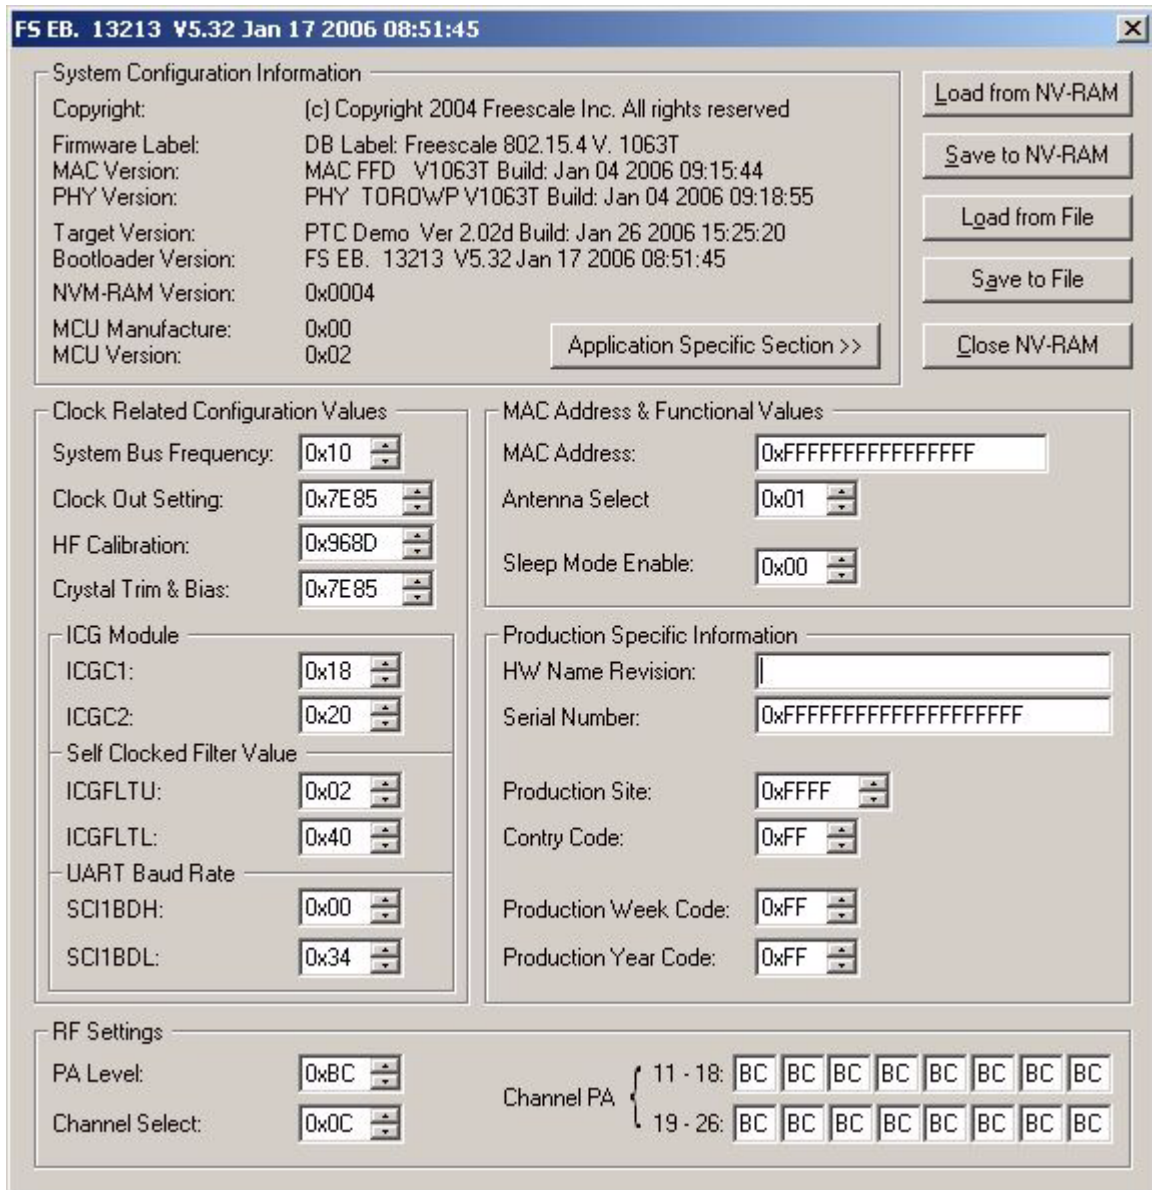

Figure 13. NV-RAM Window After Loading from NV-RAM
14. Click the NV-RAM Info button to open the NV-RAM section. The NV-RAM window appears as shown in Figure 13.